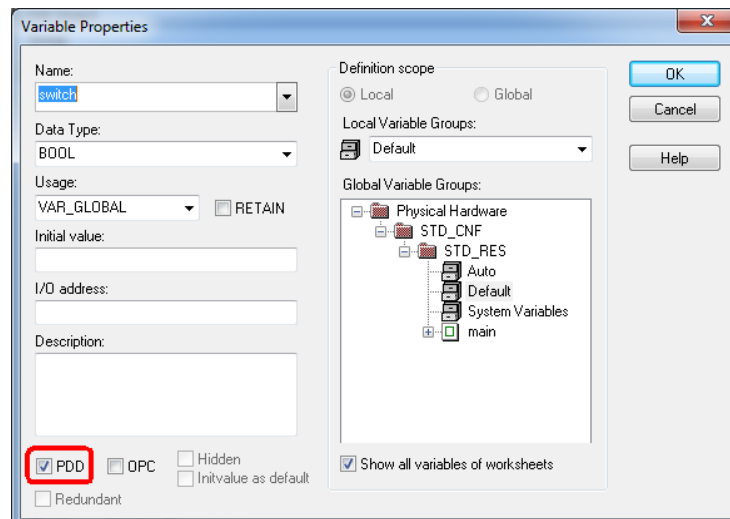

Figure 7-1 Activating the “PDD” checkbox in the “Variable Properties” window
- In the “Variable Properties” window (Figure 7-1)